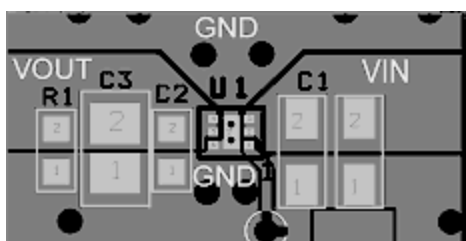

Figure 20: Proper layout of output, input and ground copper area
3. The V_{IN} , V_{OUT} and GND pins will dissipate most of the heat generated during a high load current condition. The layout suggested in Figure 20 provides each pin with adequate copper so that heat may be transferred as efficiently as possible out of the device. The ON pin trace may be laid-out diagonally from the device to maximize the area available to the ground pad. Placing the input and output capacitors as close to the device as possible also contributes to heat dissipation, particularly during high load currents.